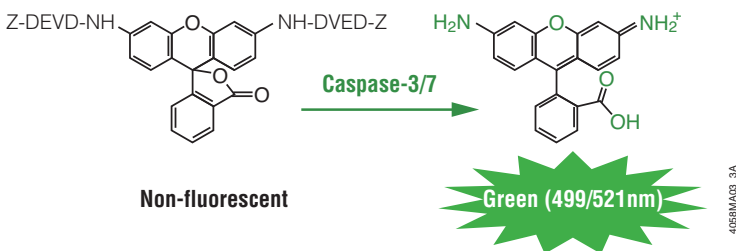

Figure 2. Cleavage of the non-fluorescent Caspase Substrate Z-DEVD-R110 by Caspase-3/7 to create the fluorescent Rhodamine 110.
The Apo-ONE® Homogeneous Caspase-3/7 Buffer rapidly and efficiently lyses/permeabilizes cultured mammalian cells and supports optimal caspase-3/7 enzymatic activity. The caspase-3/7 substrate rhodamine 110, bis-(N-CBZ-L-aspartyl-L-glutamyl-L-valyl-L-aspartic acid amide; Z-DEVD-R110), exists as a profluorescent substrate prior to the assay. To perform the Apo-ONE® Homogeneous Caspase-3/7 Assay, the Buffer and Substrate are mixed and added to the sample. Upon sequential cleavage and removal of the DEVD peptides by caspase-3/7 activity and excitation at 499nm, the rhodamine 110 leaving group becomes intensely fluorescent (Figure 2). The emission maximum is 521nm (10).